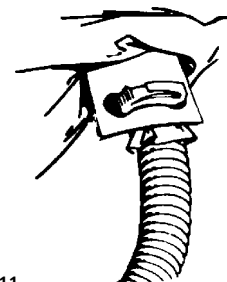

Figure 11
3. Install nylon clamps over air entry sleeve and breathing tube, inserting clamp locks through two holes in plastic anchorplate that is sewn into hood. Locks should face away from user's neck (see Figure 11).